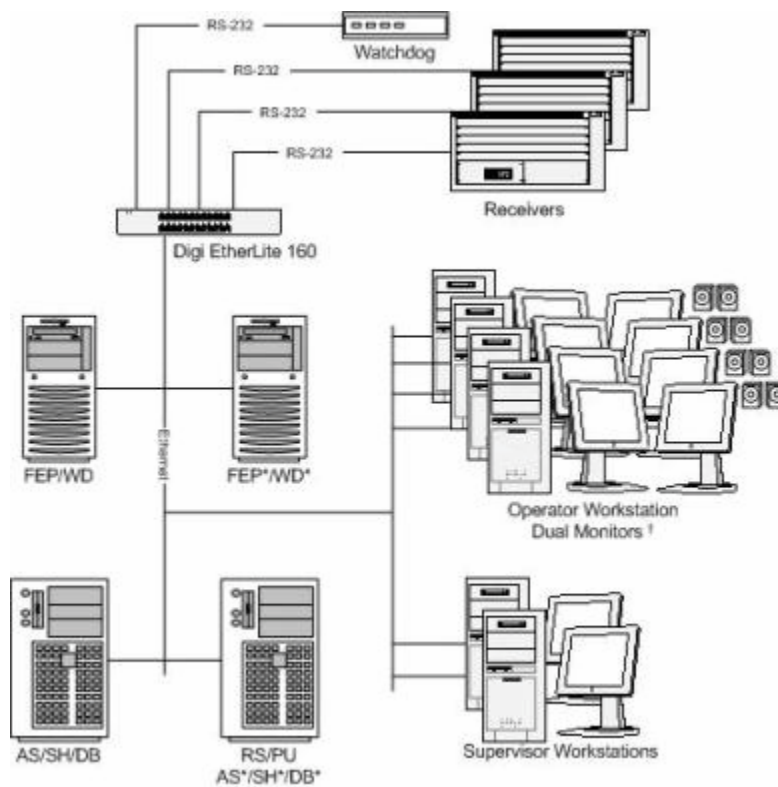

Fig 2
Manitou is a mission critical system capable of taking full advantage of redundant servers (*Fig 2*). The redundant base system configuration is the solution for larger central stations or those wishing to obtain Underwriters Laboratories (UL) certification.